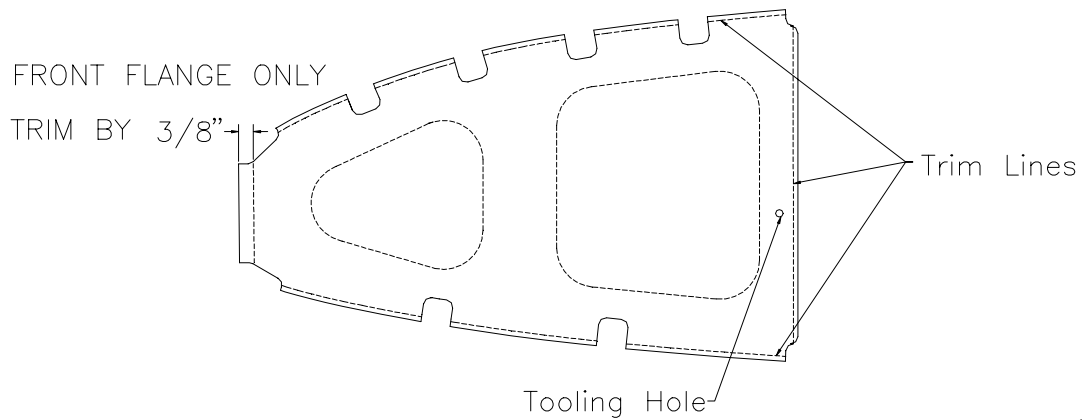

Figure 8.11.7
14) Cut the flanges off a second Leading Edge Root Rib (W-172) as in Figure 8.11.7. This will become a doubler for the Leading Edge Root Rib.
15) On the Root Rib trim the front flange only as in Figure 8.11.7.